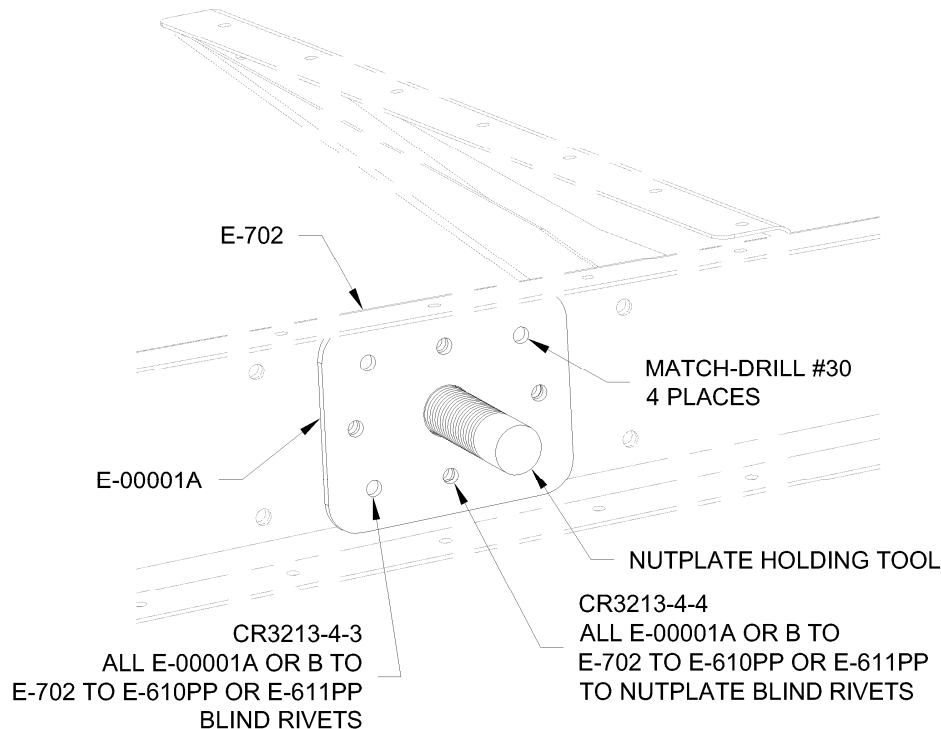

FIGURE 5: ADDING THE DOUBLER PLATE
Step 4: Remove the MD3614M Rod End and AN316-6 Jam Nut. Insert the Nutplate Holding Tool into the nutplate. See Figure 5.
Step 9: Cleco the doubler to the Elevator Assembly using the inboard and outboard most holes common between the doubler and open holes from Step 4. See Figure 5.
Step 11: Cleco then rivet the doubler to the Elevator Assembly using the rivets called out in Figure 5 (Be certain to reattach the nutplate when installing rivets in its associated holes).